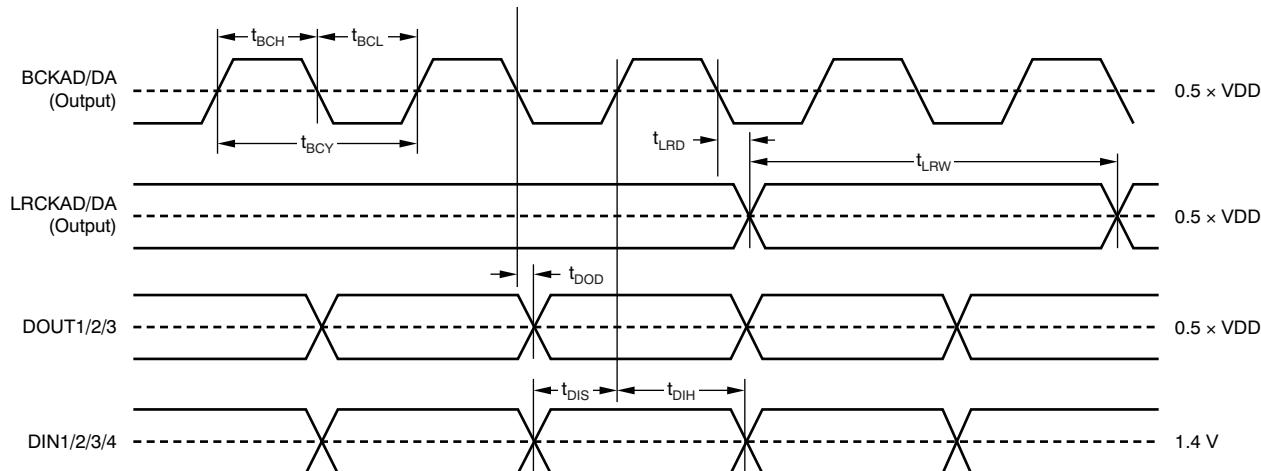

**Figure 44. Audio Interface Timing Requirements for DSP and TDM Data Formats (Slave Mode)**
**Timing Requirements for Figure 44(1)**